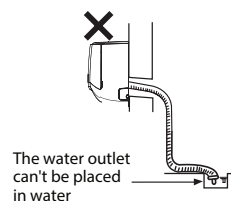

Fig.27
3. The water outlet can't be placed in water in order to drain smoothly. (As show in Fig.27)